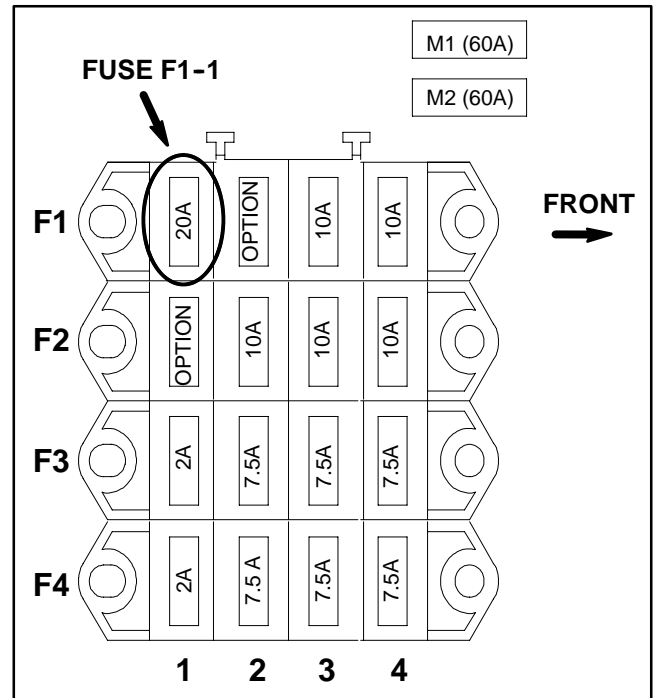

Figure 55
2. Remove fuse F1-1 (20 amp) (Fig. 55) from fuse block to prevent the engine from cranking.
6. Collect fuel in the graduated cylinder by turning ignition switch to the ON position. Allow pump to run for fifteen (15) seconds, then turn switch to OFF.
7. The amount of fuel collected in the graduated cylinder should be approximately 16 fl oz (475 ml) after fifteen (15) seconds.